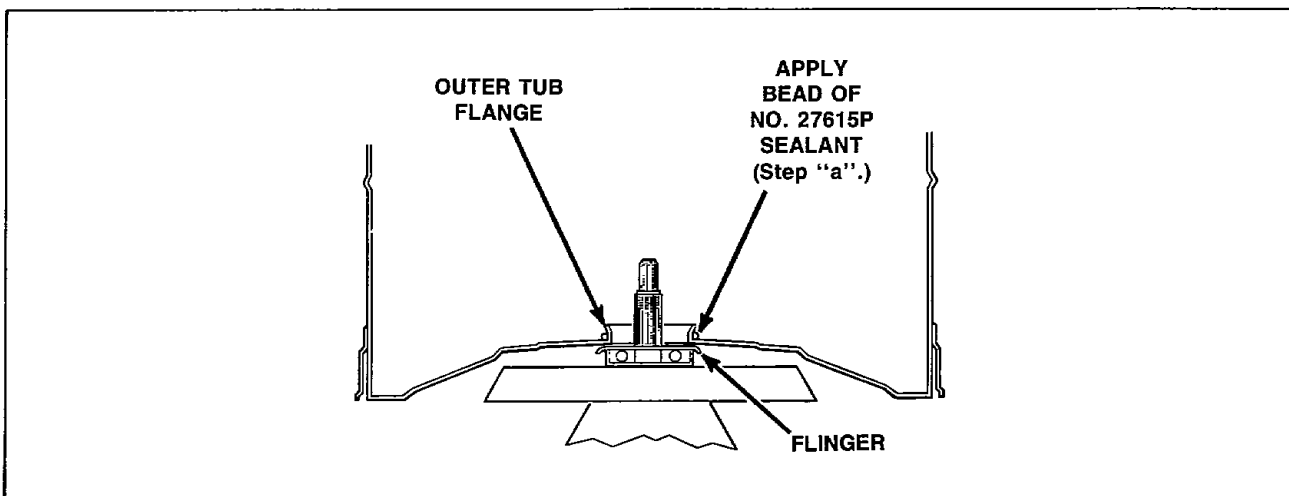

Figure 39
- a. Apply a small amount of No. 27615P Sealant (supplied in kit) around the outer surface of the tub flange, *Figure 39*.
DO NOT allow sealant to get in contact with the flinger, *Figure 39*, as this could prevent the flinger from keeping moisture out of the upper bearing.